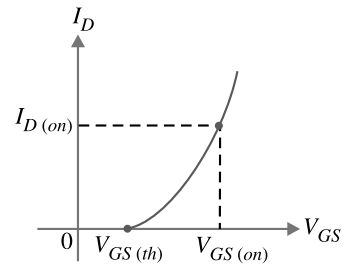

Fig. 17.67
**Equation for Transconductance Curve.** Fig. 17.67 shows the transconductance curve for  $n$ -channel  $E$ -MOSFET. Note that this curve is different from the transconductance curve for  $n$ -channel  $JFET$  or  $n$ -channel  $D$ -MOSFET. It is because it starts at  $V_{GS(th)}$  rather than  $V_{GS(off)}$  on the horizontal axis and never intersects the vertical axis. The equation for the  $E$ -MOSFET transconductance curve (for  $V_{GS} > V_{GS(th)}$ ) is
Any data sheet for an  $E$ -MOSFET will include the current  $I_{D(on)}$  and the voltage  $V_{GS(on)}$  for one point well above the threshold voltage as shown in Fig. 17.67.